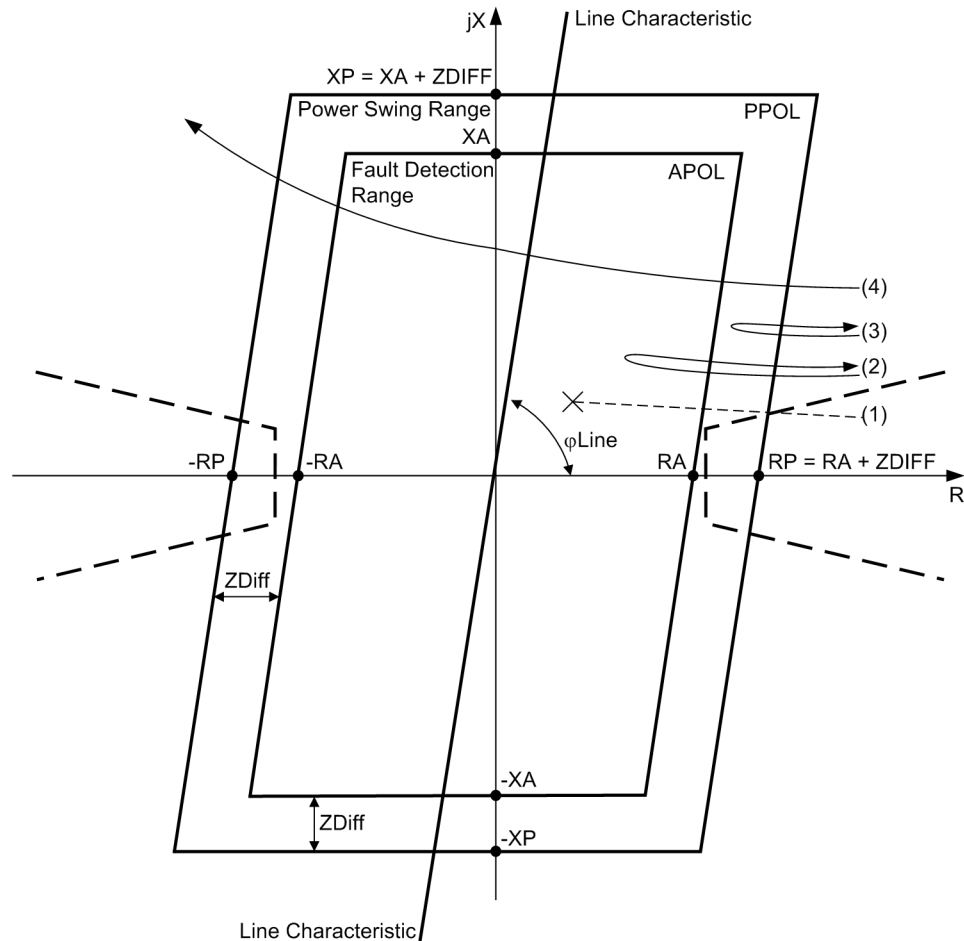

Figure 2-42 Pickup characteristic of the power swing detection for a polygon.
To detect a power swing, the rate of change of the impedance vectors is measured. The message is triggered when the impedance vector enters the power swing measuring range PPOL (refer to Figure 2-42) and the other criteria of power swing detection are met. The fault detection range APOL is made up of the largest set values for R and X (polygon characteristic) or of the largest set value for ZR (MHO characteristic) of all the activated zones. The power swing zone has a minimum distance Z_{Diff} of $5\ \Omega$ (at $I_N = 1\text{ A}$) or $1\ \Omega$ (at $I_N = 5\text{ A}$) in all directions from the fault detection zone. In the event of a short-circuit (1), the impedance vector abruptly changes from the load condition into this fault detection range. However, in the event of a power swing, the apparent impedance vector initially enters the power swing range PPOL and only later enters the fault detection range APOL (2). It is also possible that a power swing vector will enter the area of the power swing range and leave it again without coming into contact with the fault detection range (3). If the vector enters the power swing polygon and passes through it leaving on the opposite side, then the sections of the network seen from the relay location have lost synchronism (4): The power transfer is unstable.
When the impedance vectors identified by the power swing detection exit the power swing characteristic PPOL, the sign of the R components in the vectors are checked to see if they are the same on exiting and entering the pickup polygon. If this is the case, the power swing process is inclined to stabilize. Otherwise, the vector passed through the power swing characteristic (loss of synchronism, case (4) in Figure 2-42). Stable power transmission is then no longer possible. . The device outputs an alarm to that effect (No. 4163 „P.Swing unstab.“), provided that the parameter in address 2006 **PowerSwing trip** is set to **NO**. The alarm No. 4163 „P.Swing unstab.“ is a pulse with a duration of approx. 50 ms, which can also be processed further via output relay, e.g. for a cycle counter or a pulse counter.